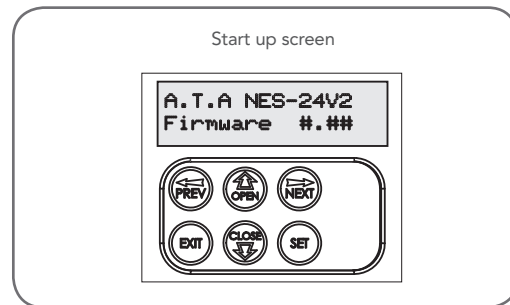

Fig 7.2
- After checking the initial wiring, apply power to the NeoSlider™. The controller will go through a startup sequence displaying the STARTUP SCREEN which indicates the controller type and firmware version (**Fig. 7.2**). After a short delay the MAIN SCREEN will be displayed.